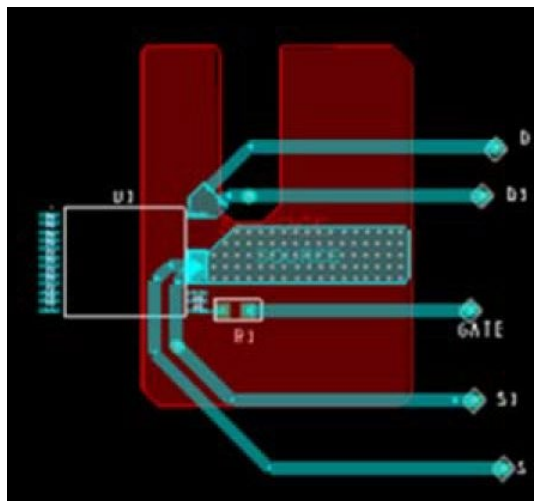

Figure 22. Thermal Resistance Test Conditions for PowiGaN Devices (LYT6079C and LYT6070C.)
Testing performed on custom thermal test PCB as shown in Figure 22. The test board consists of 2 layers of 2 oz. Cu with the InSOP package mounted to the top surface and connected to a bottom layer Cu heat sinking area of 550 mm².
4. Please see Figure 22.